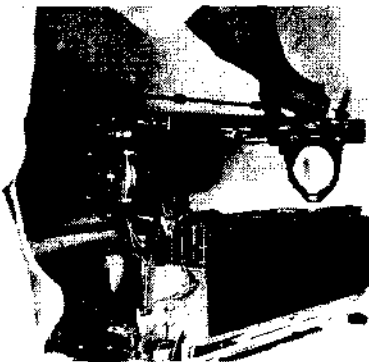

Figure 5-8 CARRIER SYSTEM REMOVAL - C
6. Carefully lift the Carrier Subassembly, which includes the paper feed drive motor), free of the printer's main frame as shown in Figure 5-8. Be sure the motor's wires are free and not caught in the wire bundle.
2. Carefully lower the Carrier Subassembly into position on the printer's main frame. Refer to Figure 5-8.